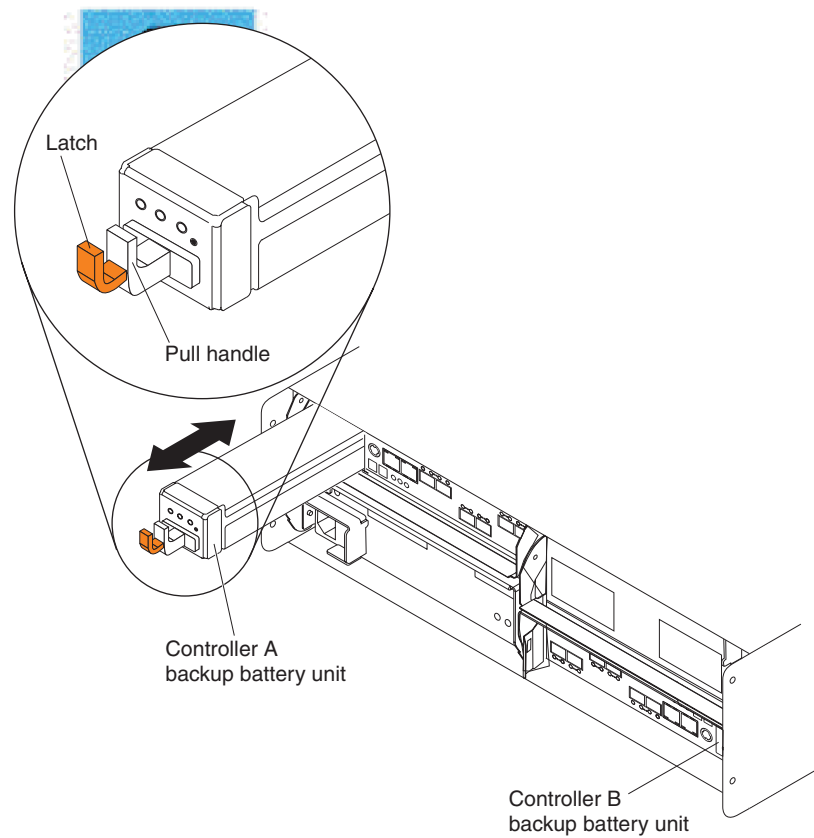

Figure 84. Removing and replacing a battery unit from the controller chassis
5. To remove the failed battery unit from the RAID controller, press the orange battery unit latch toward the black battery handle to unlatch the battery from the DS5020 chassis and slowly pull the battery unit from the controller chassis using the handle, as shown in Figure 84.